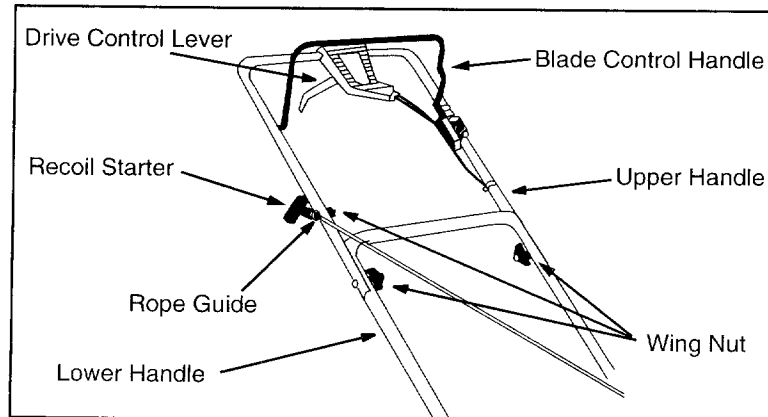

FIGURE 5
The rope guide is already attached to the right side of the upper handle of your mower. See Figure 5.
- With the spark plug wire disconnected and grounded, hold the blade control handle against the upper handle, and pull the starter rope up to the rope guide. See Figure 5.